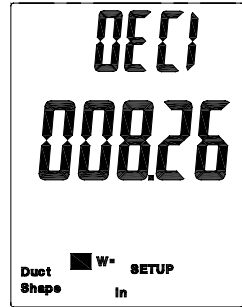

Fig. 5
1. If **duct shape is rectangular**, the width of duct numbers and "W=" will appear on the display (Fig. 5).